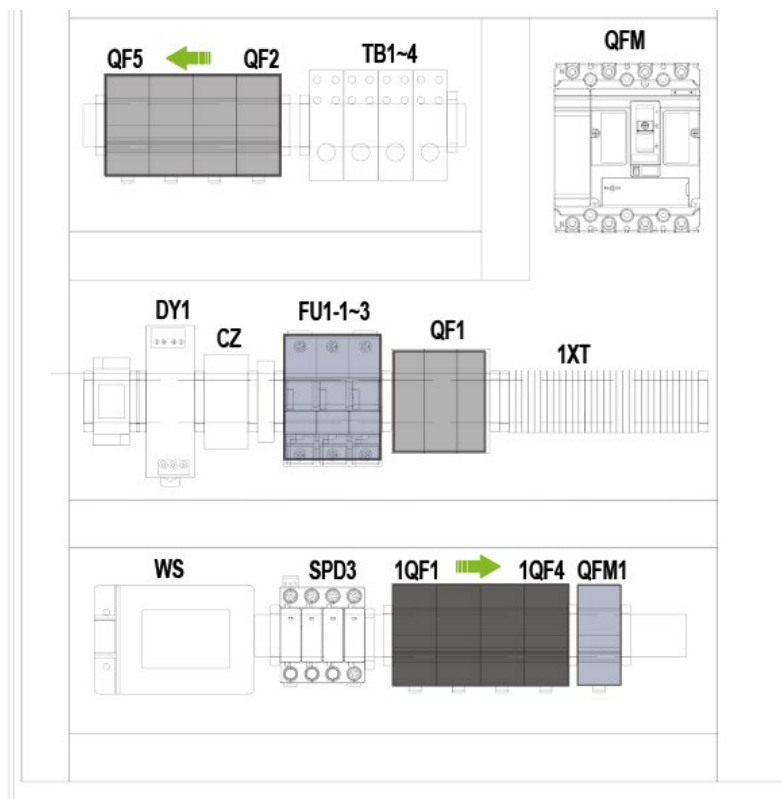

Figure 7-2 Close circuit breakers
2. Close 1QF1\1QF2\1QF3\1QF4 miniature circuit breakers in sequence, refer to Figure 7-2;
4. Close the QFM1 circuit breaker, refer to Figure 7-2;
5. Close QF1\QF2\QF3\QF4 breaker in sequence, refer to Figure7-2.